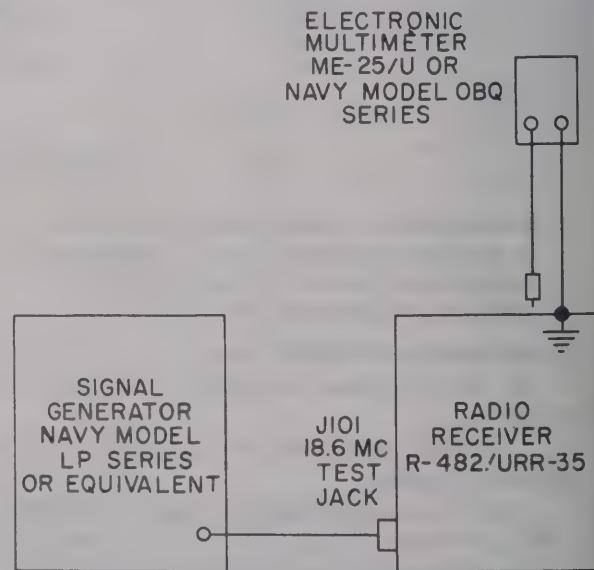

Figure 7-4. Bench Test Set-Up for I-F Alignment
c. ALIGNMENT OF I-F SECTION. (See figure 7-4.)
(See figure 7-4.)